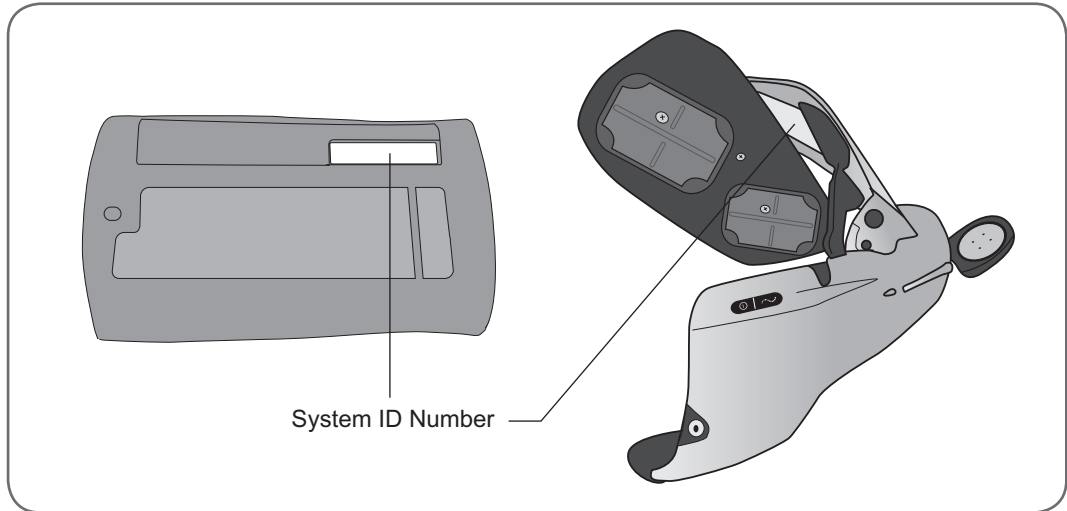

Figure 12-2: Location of the System ID Numbers
4. Locate the System ID Number (for example, A334) on the existing system component. The System ID Number is on the back of the Control Unit and under the extensor wing of the Orthosis. See Figure 12-2.